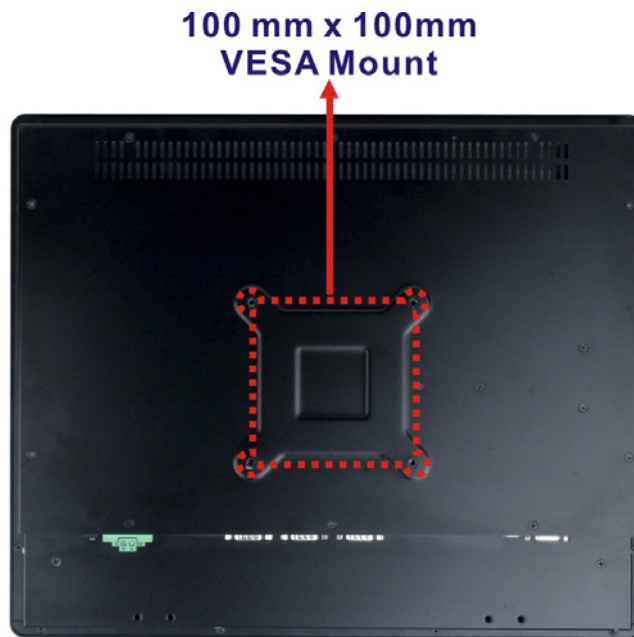

Figure 3-41: Arm Mounting Retention Screw Holes
Step 3: Align the retention screw holes on the mounting arm interface with those in the PPC-F12B/15B/17B/19B-BTi panel PC. The arm mounting retention screw holes of the PPC-F12B/15B/17B/19B-BTi panel PC are shown in **Figure 3-41**.